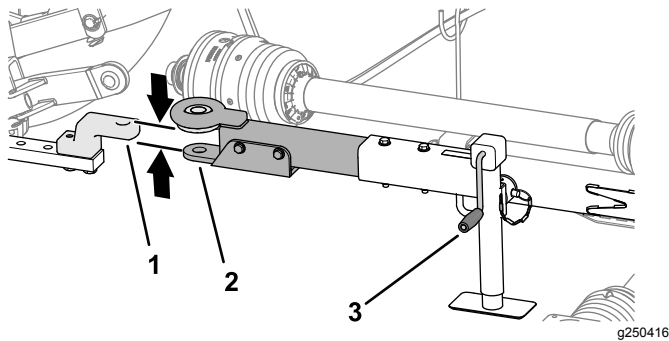

Figure 28
1. Use jack handle to raise or lower the tow bar jack and align the tow bar to the drawbar or pintle hitch (Figure 28).
3. Align the drawbar or pintle hitch of the tow vehicle with the tow bar of the mower (Figure 28).